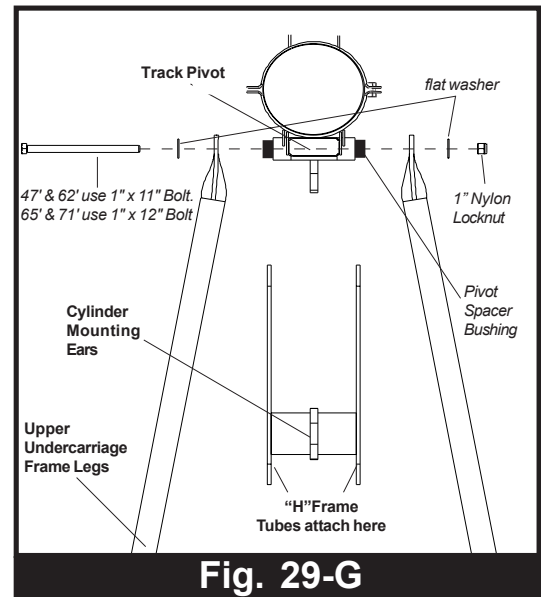

Fig. 29-G
- G. Raise the upper undercarriage frame legs fasten the H-Frame and upper legs through the track pivot tube using a 1" x 11" (grade 5) hex head cap screw and nylon locknut on 47' & 62' augers or a 1" x 12" (grade 5) hex head capscrew and nylon locknut on 65' & 71' augers. (See Fig. 29-G)